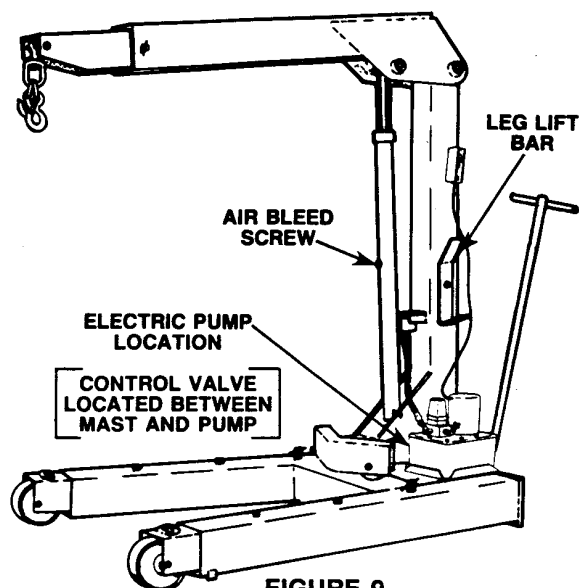

FIGURE 9
IF USING AN ELECTRIC PUMP, remove the shipping board from the bottom of the pump. Mount the pump on the right side of the crane (viewed from the front). See Figure 9. **NOTE: Position the pump so the control valve handle faces away from the crane mast.** Remove the pipe plug from the pump's control valve pressure port. (Refer to the parts list or instruction sheet for the pump.) Apply pipe sealant to the external threads of the 90° elbow and the hydraulic hose. Install the elbow into the pump valve pressure port. Install the hose into the 90° elbow and into the 45° swivel elbow on the crane cylinder. Wrench tighten all hydraulic fittings.
18. Place the leg lift bar on the pin located on the side of the mast, and fasten it in place with the 1-7/8" lg. hair pin. See Figure 9.